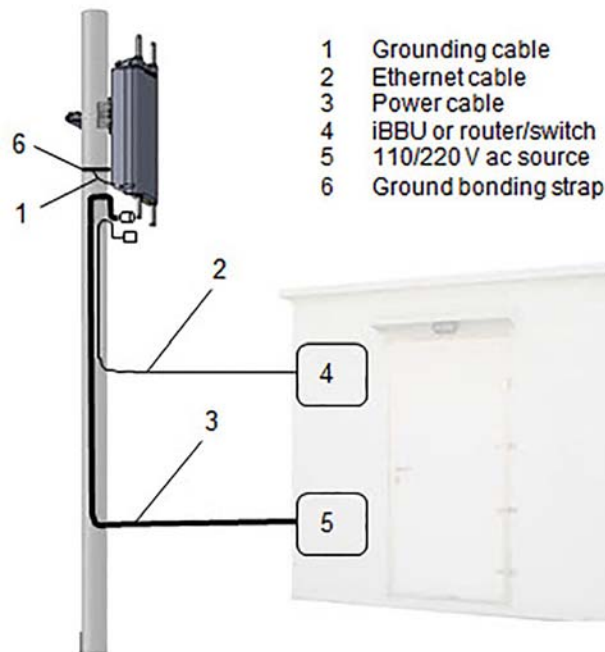

Figure 5-4 Cable routing
1. Route the cables from the iRU4438 installation location to cable sources as shown in Figure 5-4.
The four QMA RF jacks on the front of the iRU4438 iRRH are labeled ANT 1–4 (as viewed from right to left) and as shown in Figure 3-5. The four omni-directional antennas are designated OMNI 1–4 and are configured as shown in Figure 3-6. The RF cable routing is shown in Figure 5-4.